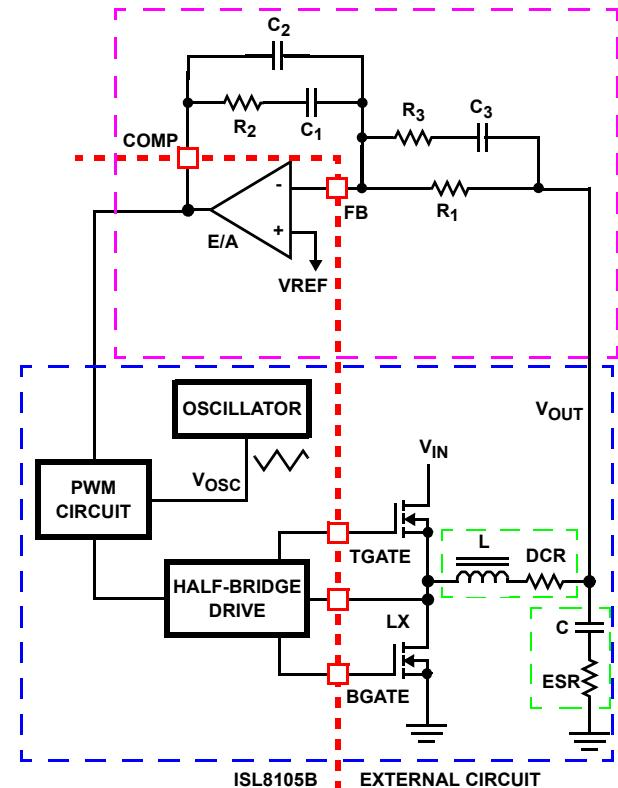

FIGURE 9. VOLTAGE-MODE BUCK CONVERTER COMPENSATION DESIGN
This section highlights the design considerations for a voltage-mode controller requiring external compensation. To address a broad range of applications, a type-3 feedback network is recommended (see Figure 9).
Figure 9 highlights the voltage-mode control loop for a synchronous-rectified buck converter, applicable to the ISL8105B circuit. The output voltage ( $V_{OUT}$ ) is regulated to the reference voltage,  $V_{REF}$ , level. The error amplifier output (COMP pin voltage) is compared with the oscillator (OSC) triangle wave to provide a pulse-width modulated wave with an amplitude of  $V_{IN}$  at the LX node. The PWM wave is smoothed by the output filter (L and C). The output filter capacitor bank's equivalent series resistance is represented by the series resistor ESR.
The compensation network consists of the error amplifier (internal to the ISL8105B) and the external  $R_1$  to  $R_3$ ,  $C_1$  to  $C_3$  components. The goal of the compensation network is to provide a closed loop transfer function with high 0dB crossing frequency ( $F_0$ ; typically 0.1 to 0.3 of  $f_{SW}$ ) and adequate phase margin (better than +45°). Phase margin is the difference between the closed loop phase at  $F_{0dB}$  and +180°. The equations that follow relate the compensation network's poles, zeros and gain to the components ( $R_1$ ,  $R_2$ ,  $R_3$ ,  $C_1$ ,  $C_2$ , and  $C_3$ ) in Figure 9. Use the following guidelines for locating the poles and zeros of the compensation network:
1. Select a value for  $R_1$  (1kΩ to 10kΩ, typically). Calculate value for  $R_2$  for desired converter bandwidth ( $F_0$ ). If setting the output voltage to be equal to the reference set voltage as shown in Figure 9, the design procedure is shown in Equation 5.